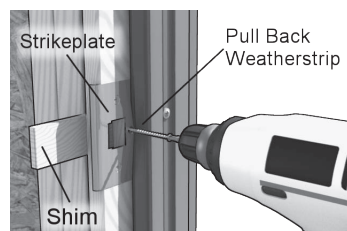

Figure 12
**1l) (Required)** If your door unit has strike plates on a side jamb (instead of having hinges on a mullion), press back the weatherstrip to reveal an unused hole in the strike plate. After confirming that the jamb is shimmed, drive a 2 1/4" long screws into the hole. (figure 12, inswing door shown)